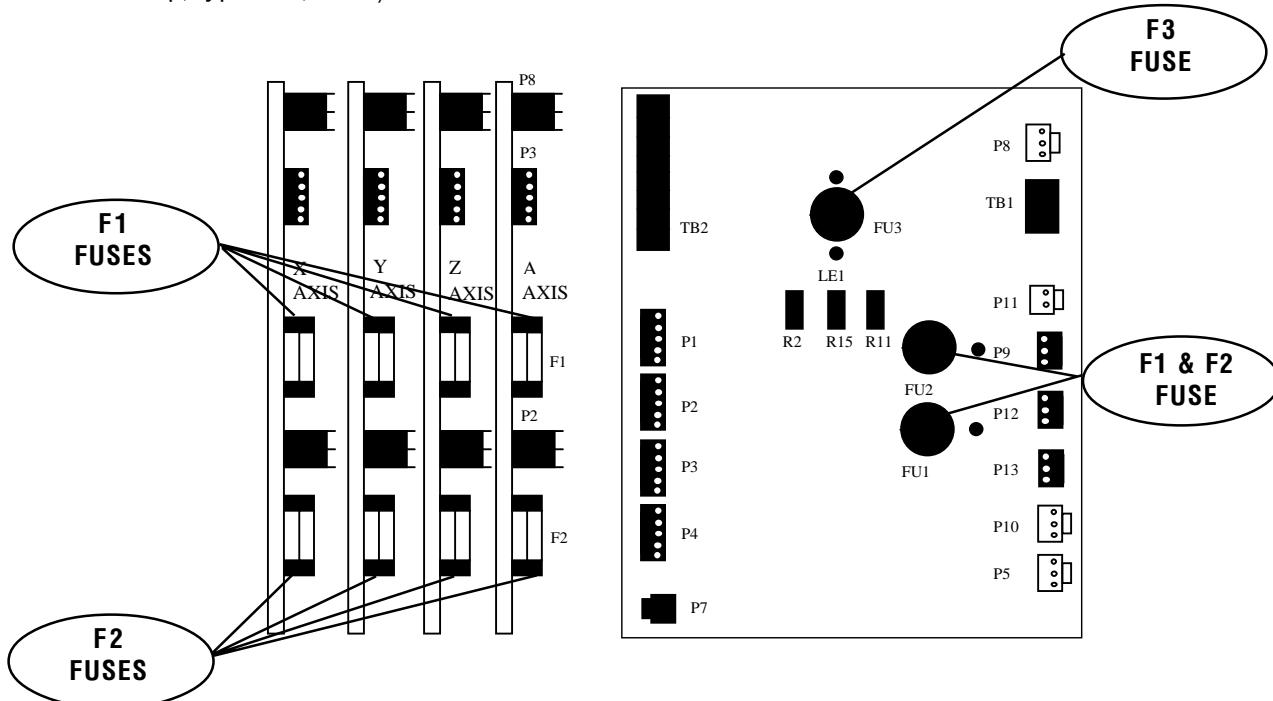

Figure 3-3. Servo Drive Assembly; fuse locations.
3. On the SERVO DRIVE ASSEMBLY, there are three fuses on the SDIST panel, and three individual fuses on each of the SERVO DRIVE boards (See Fig. 3-3; the F3 fuses are not shown).